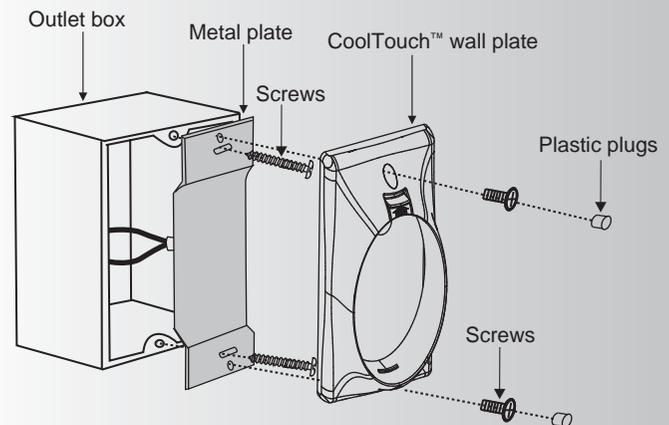

Fig. 30
Step 2. Install the metal plate and CoolTouch™ wall plate to the existing wall outlet box with 4 screws provided. Then place the two plastic plugs into the wall plate. (Fig. 30)